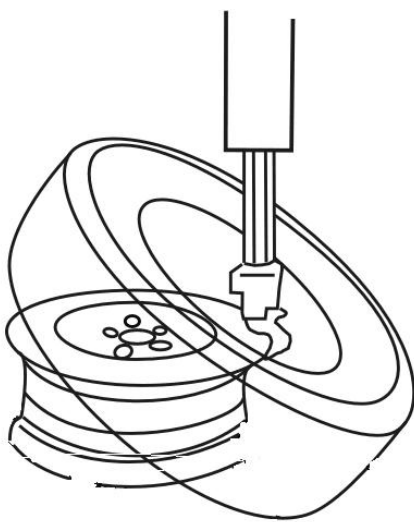

Fig. 26
- Put the bead on the rim with the left side upward, press pedal A to make column back to its working position (Fig.26).